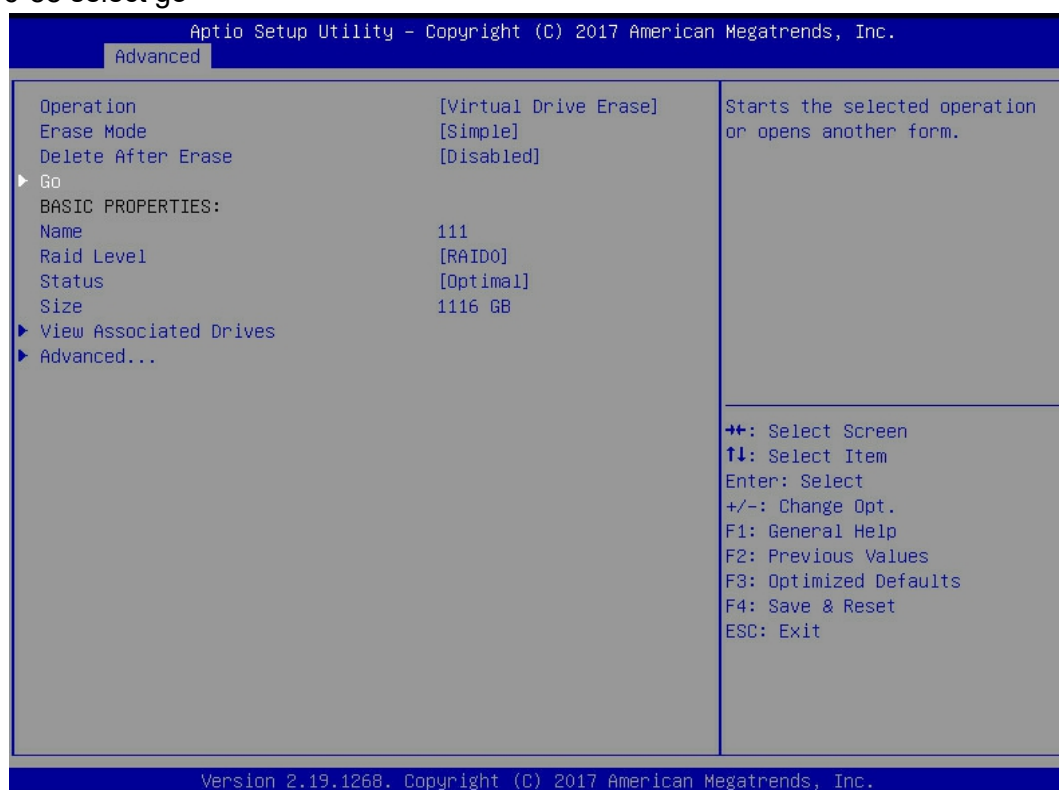

Figure 6-88
- e) Enter the interface shown in figure 6-88, select go and press enter.
✧ Figure 6-88 select go